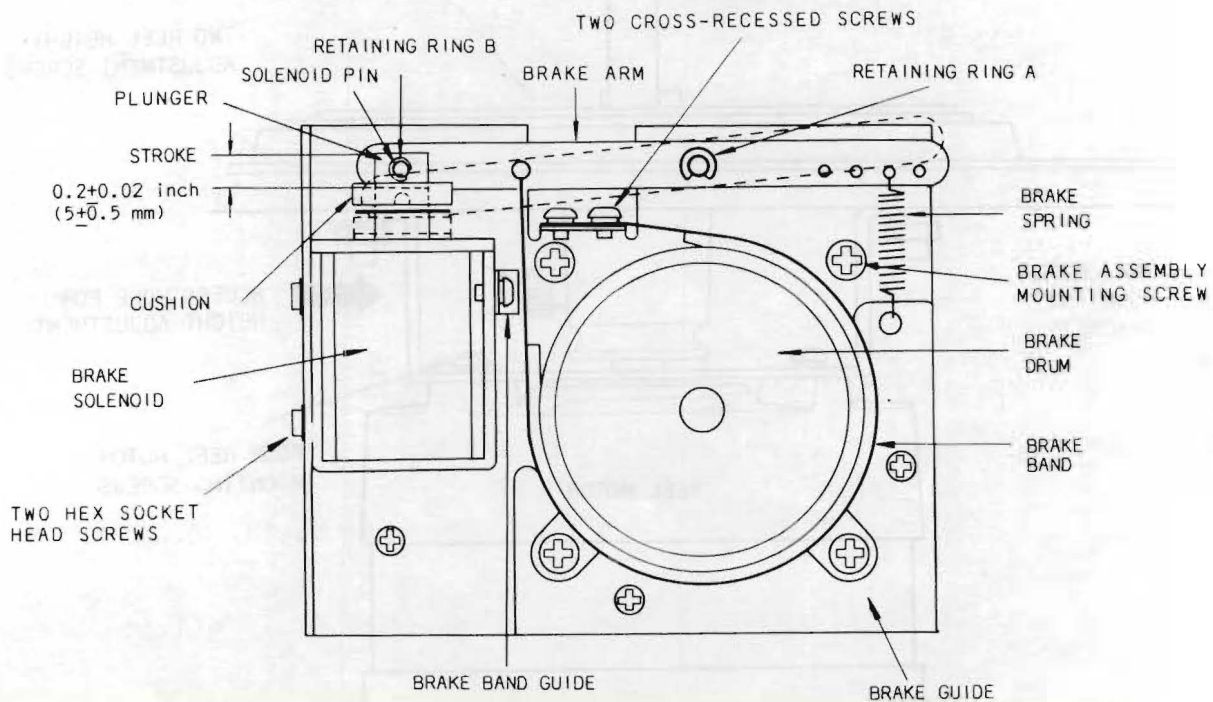

Figure 8-2 Brake Assembly
4. Remove the brake assembly and the brake drum by removing the four brake assembly mounting screws and two hex socket head screws on the bottom of the reel motor as shown in Figure 8-2.
When a new brake arm assembly or new brake solenoid is installed (Figure 8-2 ), it is necessary to position the brake guide and/or brake solenoid to ensure uniform brake band clearance around the brake drum when the solenoid is energized.